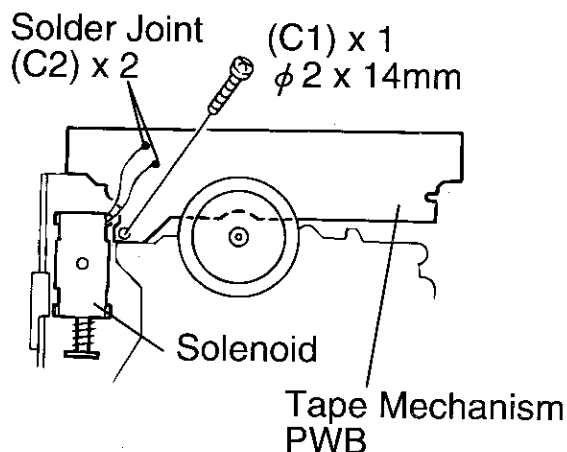

Figure 11-2
**How to remove the tape mechanism PWB (See Fig. 11-2.)**